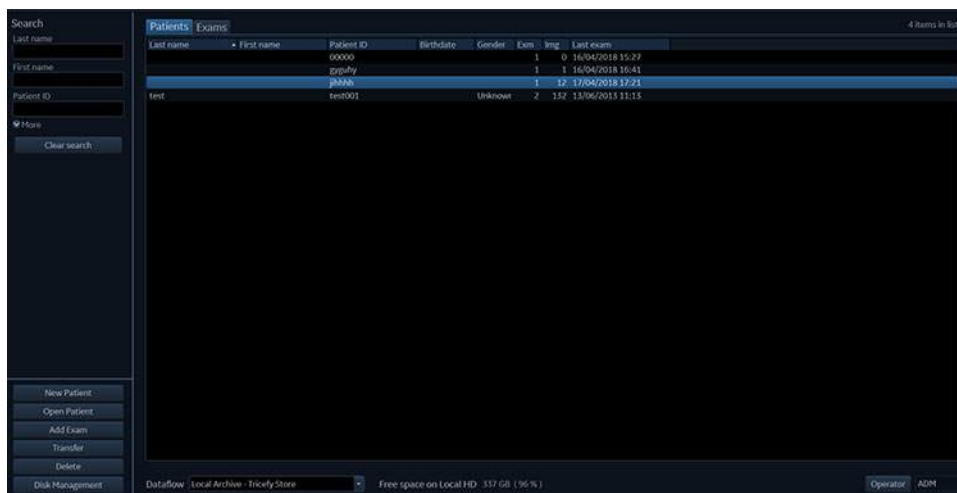

Figure 10-48. The Patients/Exams list
1. Press **Transfer** from the Patients/Exams list (Figure 10-48)